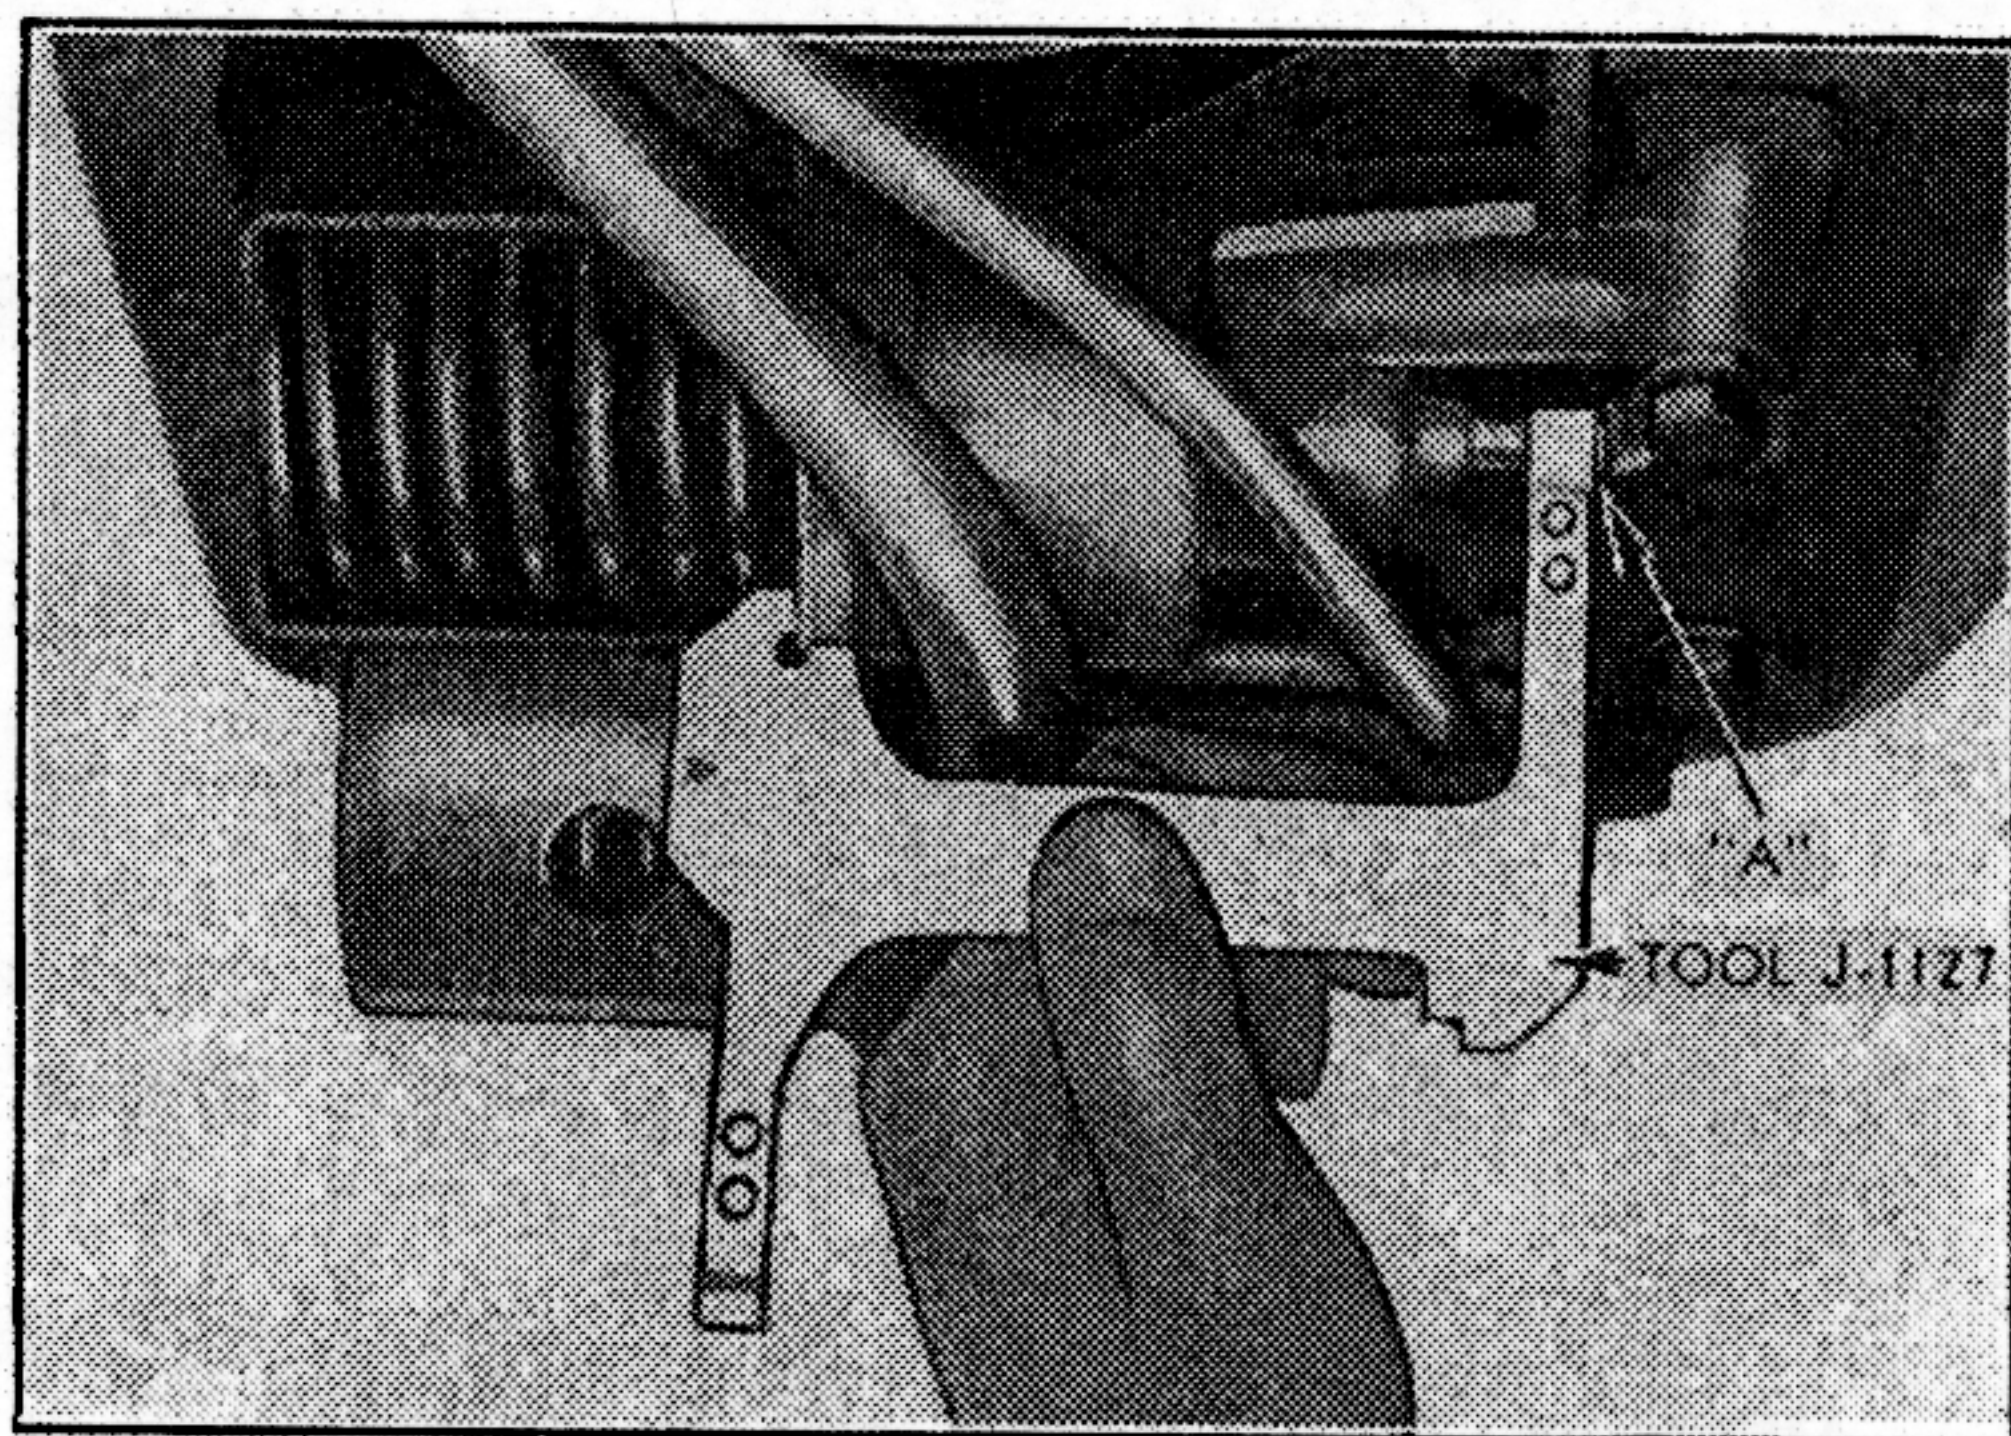

Fig. 11. Checking Servo Band Setting
5. Check pin "A" (see Fig. 11) using servo gauge J-1127 on rear servo, and if resetting is necessary, mechanic